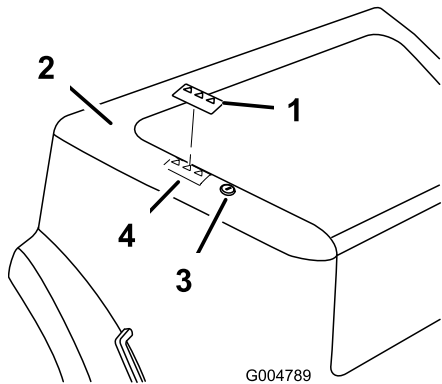

Figure 10
1. Thoroughly clean the area of the hood where you are installing the decal (Figure 10).
3. Peel off the backing of safety decal, apply it to the hood as shown in Figure 10, and squeegee across the decal using overlapping strokes from the center toward the edges.